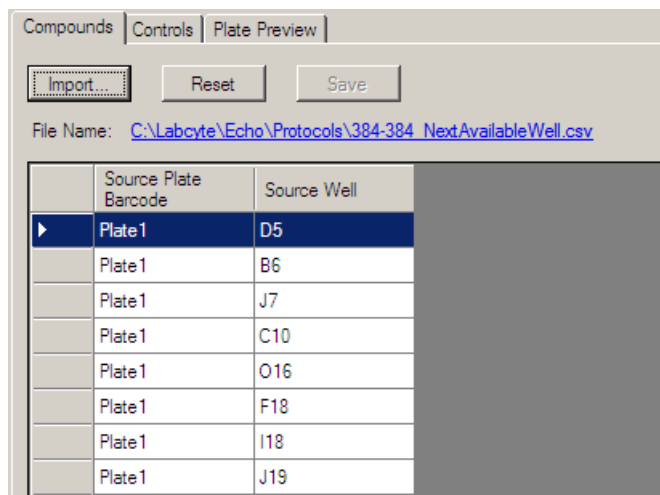

Figure 3-22: Pick list in Compound window
- f. Click the **Import** button to open the pick list in the *Compound* window below the file name. See Figure 3-22. If you need to edit the pick list, see *"Edit window"* on page 53 for instructions.